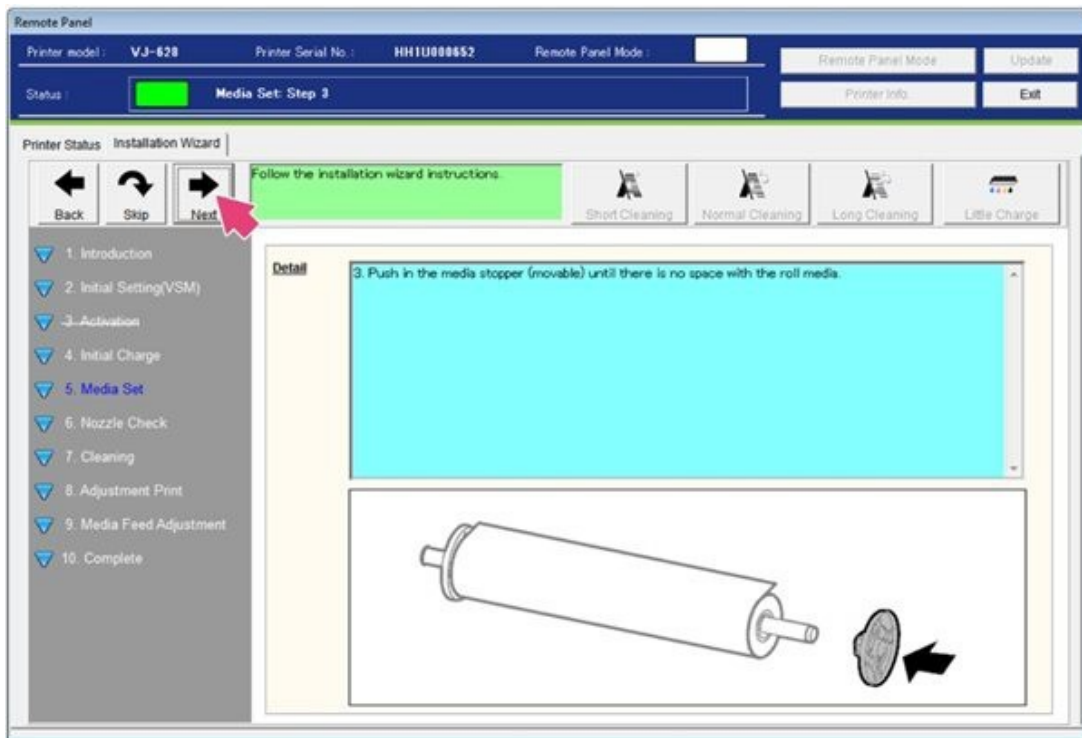

Figure 66
53. Replace the media stopper until no space remains between the roll and the stopper; then select **Next**. See Figure 66.